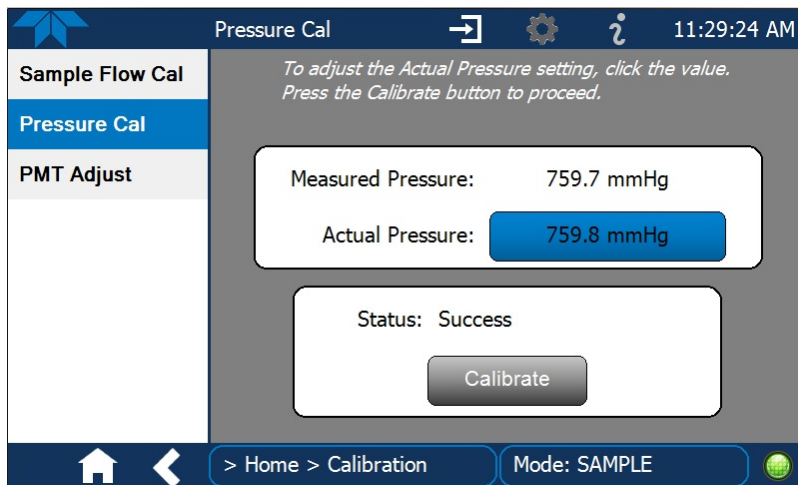

Figure 12. Pressure calibration screen.
2. Compare the “Measured Pressure” in this screen to the Audit Pressure Standard (Figure 12).